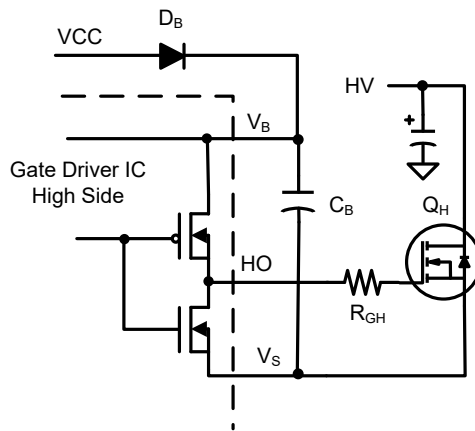

Figure 29. TF2108(A) high side in bootstrap operation
The supply for the TF2108(A) High Side is provided by the bootstrap capacitor C_B (see fig 29). In the half-bridge configuration , V_S swings from 0V to V_{HV} depending on the PWM input of the IC. When V_S is 0V, V_{BS} will go below V_{CC} and V_{CC} will charge C_B . When HO goes high, V_S swings to V_{HV} , and V_{BS} remains at V_{CC} minus a diode drop (D_B) due to the voltage on C_B . This is the supply for the high side gate driver and allows the gate driver to function with the floating well (V_S) at the high voltage.